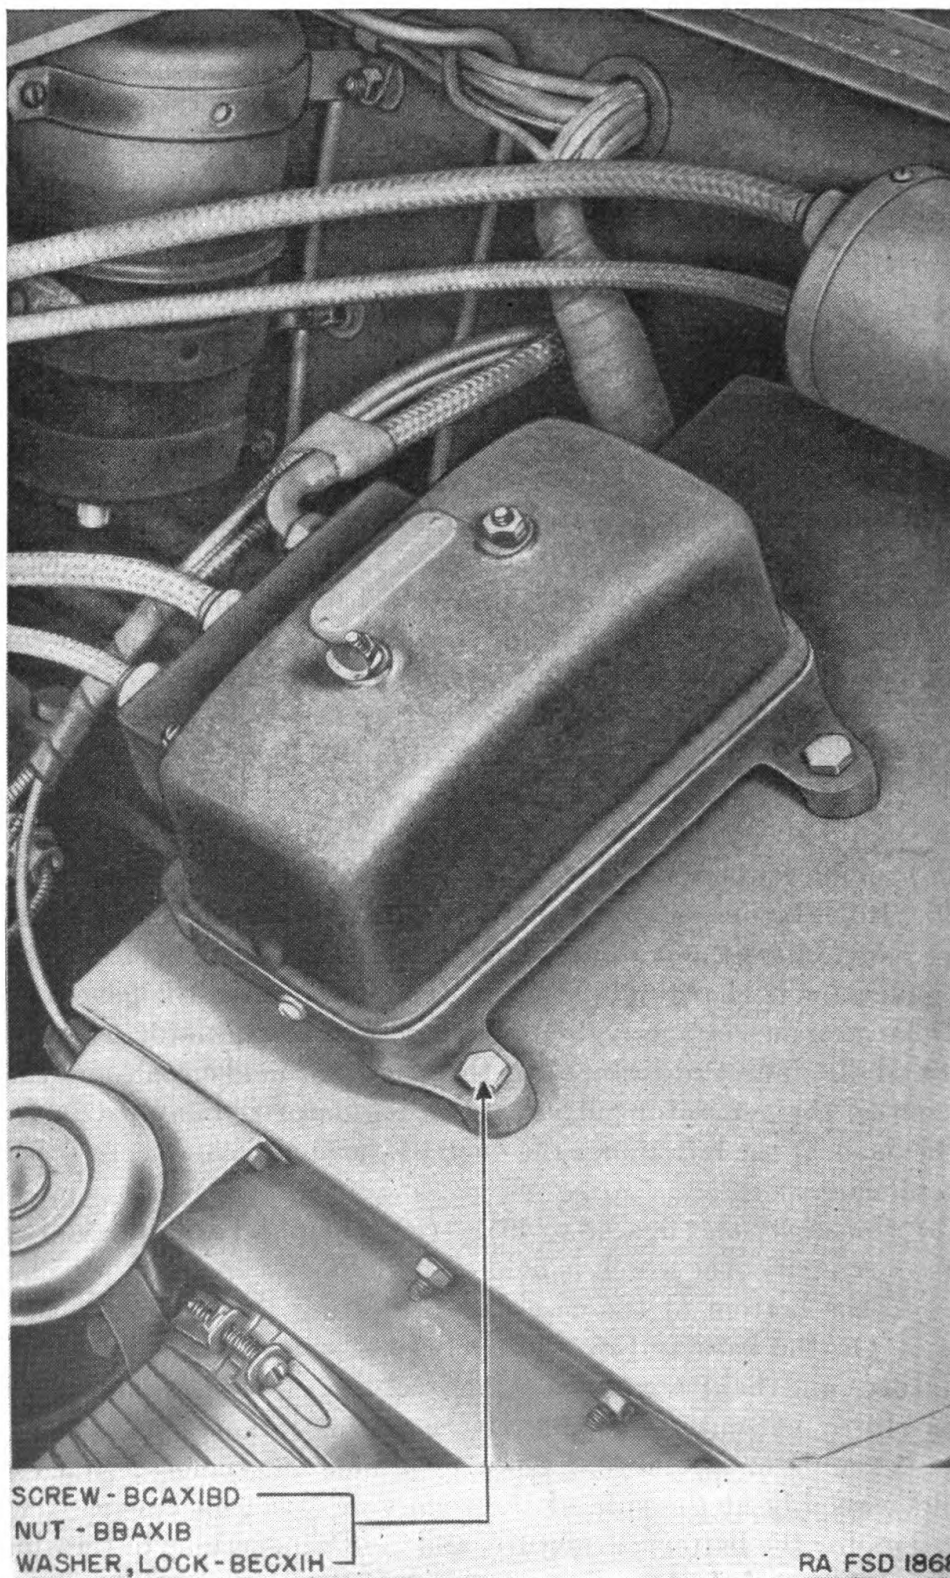

FIGURE 45.—Voltage and current regulator, installed.
(1) *Construction* (figs. 45 to 49).—(a) The regulator is mounted in a case having a cover which is held on by two nuts engaging two studs fixed to the bottom of the case and projecting through holes in the cover. On the base and extending beyond one side are the battery, armature, and field terminals which connect to the circuit breaker assembly or cut-out relay, the current regulator assembly, and the voltage regulator assembly. These terminals are enclosed in a radio shield assembly at the side of the regulator case and provided with openings for the battery, armature, and field connections to terminals. On the bottom of the base are several resistance units and the circuits are such that whenever the voltage or current delivered is too high,